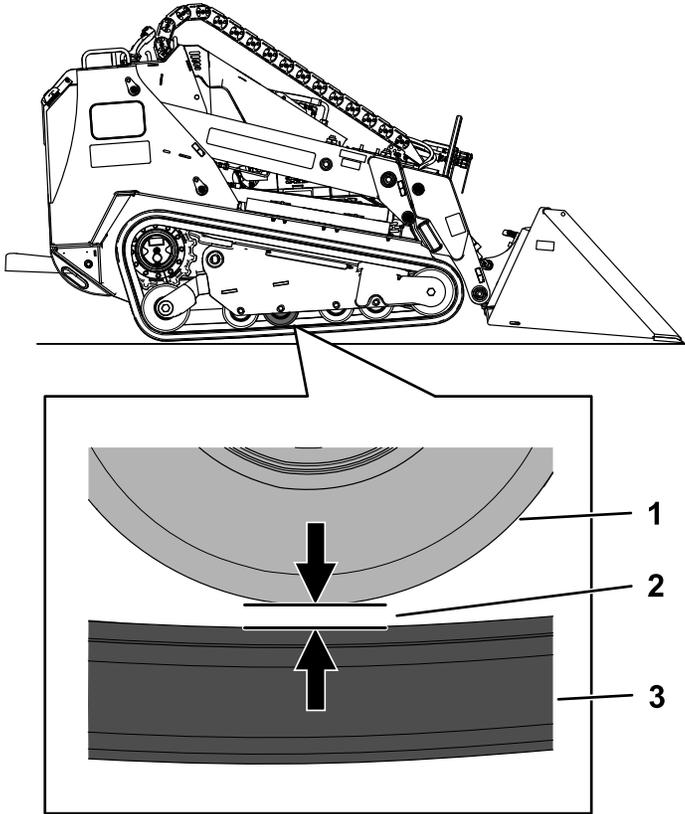

Figure 68
- Verify that the gap between the 2nd road wheel from the rear and the track is 20 mm (0.8 inch) as shown in Figure 68. If adjustment is needed, proceed to Adjusting the Track Tension \(page 44\)
- Using a 1/2 inch drive ratchet, turn the tensioning screw until the gap between the road wheel and track is 20 mm (0.79 inch) as shown in Figure 68.
the road wheel and track is 20 mm (0.79 inch) as shown in Figure 68.